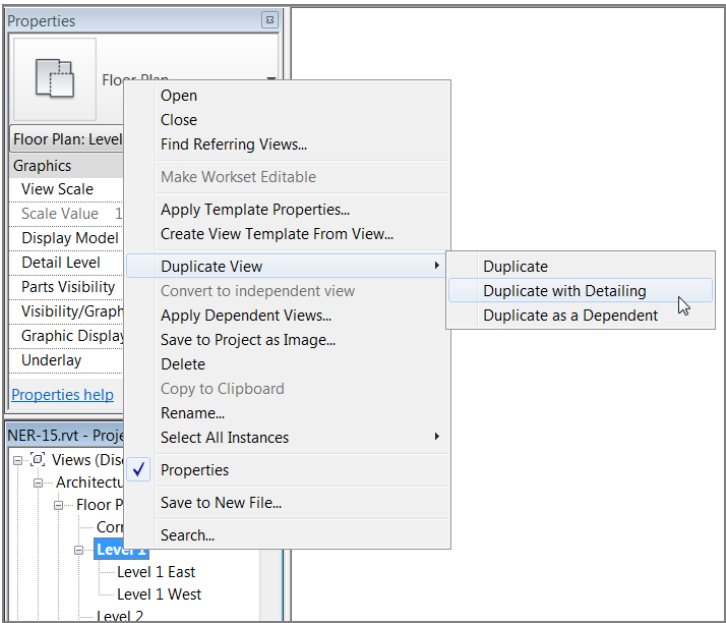

FIGURE 15.16: Duplicating the view
- 1. Right-click the Level 1 floor-plan view, and select Duplicate View ➤ Duplicate With Detailing, as shown in Figure 15.16. If you get an error pertaining to the view references, click the Delete button.